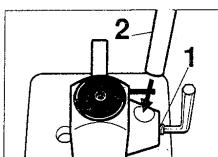
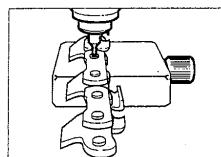

fig. 1
fig. 4
The Chain Breaker is supplied already assembled, except the lever (2). To mount this lever, release screw (1) (fig.1). Supplied wrench. Insert lever as shown in fig.4 then tighten screw (1).
head under the punch, then lower the lever step by step (2) (fig.1) till the rivet has come out. Do not force too much.